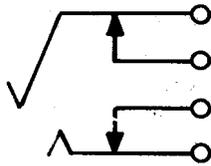

Fig. 23—618A or B Jack
2.17 **618A and B:** The 618A and B jacks are illustrated in Fig. 23.